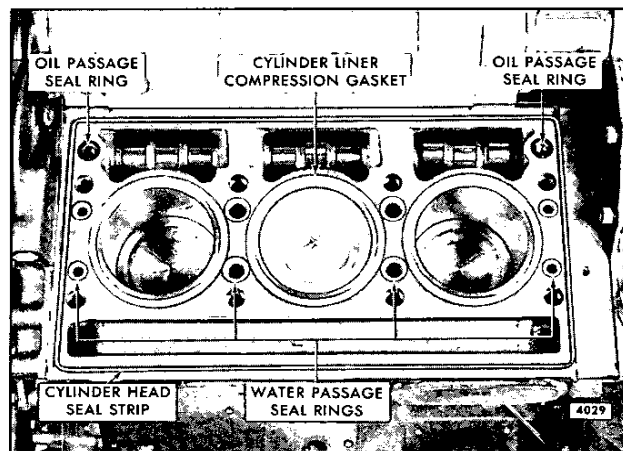

Fig. 6 – Cylinder Head Gaskets and Seals in Place on Cylinder Block
1. Refer to Fig. 6 and install the water and oil seal rings and compression gaskets as follows: